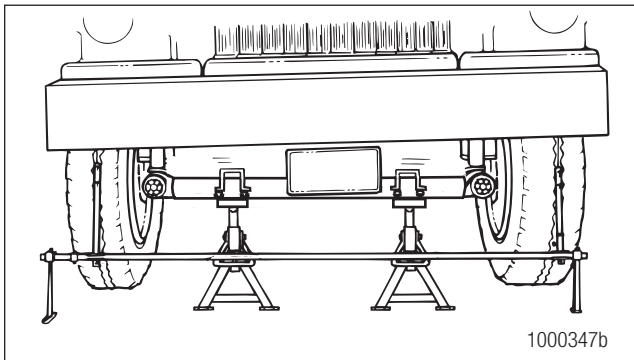

Figure 9.8
4. Place the pointers of a trammel bar on the marks of each tire. Rotate the tires. Verify that a straight line is marked on the outer surface of the tire. Figure 9.8.